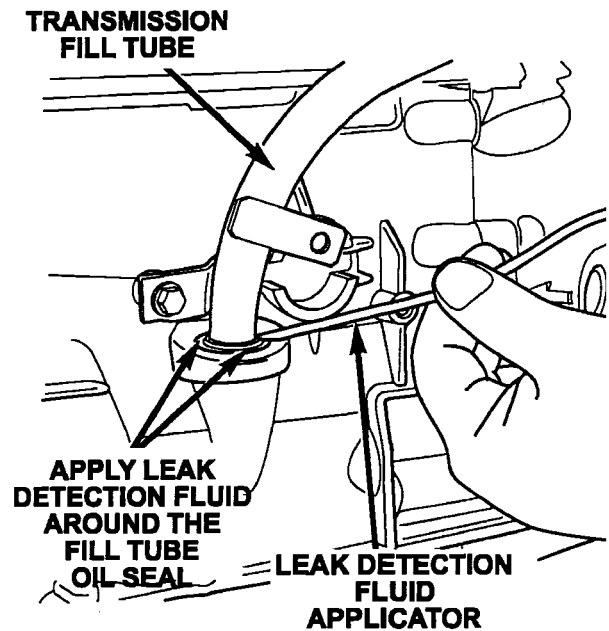

Figure 2
7. Apply the leak detection fluid around the transmission fill tube oil seal area (Figure 2).